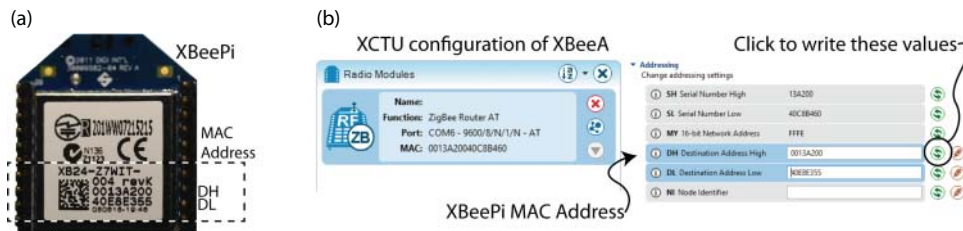

Figure 13-11: Configuring the Arduino XBee to connect to the RPi XBee Device: (a) the RPi XBee, and (b) Arduino XBee XCTU settings
- Change the serial Baud Rate (BD) to 115,200. XCTU updates the device settings when you write this value to the XBee.
- Read the Destination Address (DH/DL) from the bottom of the XBeePi (see Figure 13-11a) and enter it as the destination address for XBeeA: DH as 0013A200 and DL as 40E8E355 in my case, as illustrated in Figure 13-11(b).